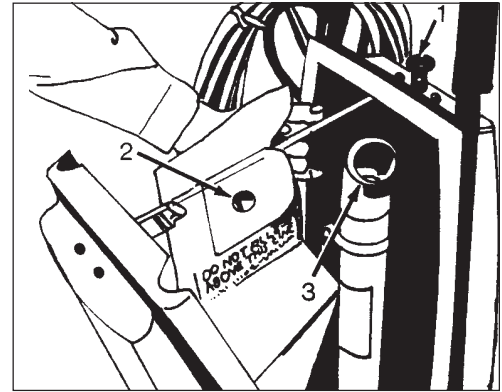

Figure 7
1. When the bag is $\frac{3}{4}$ full, open the tank by pushing the knob (1) on top of the tank. See figure 7
4. Hold the bag by the cardboard inlet tab (2).
5. Slide the inlet over the standpipe (3). Do not apply pressure to the back of the bag.